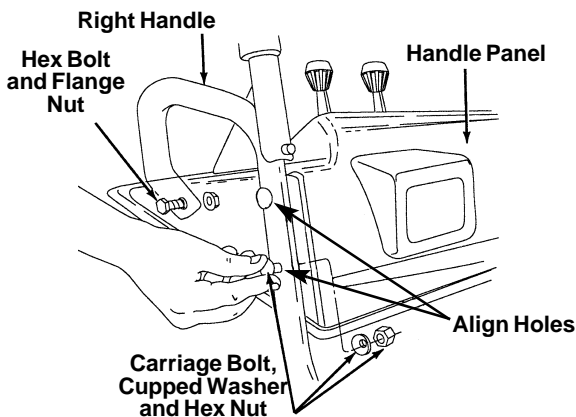

Figure 3
- Place the handle panel in position between the handles so the ends of the curved part of the handles go through the slots in the handle panel. While placing the handle panel, make sure to route chute and chute cable between the handles underneath the panel keeping the cable on top of the engine. Align the holes in the handle with the holes on two sides of the handle panel. See Figure 3.
- Attach the handle panel to the handle with two carriage bolts, cupped washers (cupped side against the handle panel) and hex nuts on each side. See Figure 3. You will find these fasteners in the hardware pack (group B on page 5). Align the contour of the carriage bolt head with the handle.